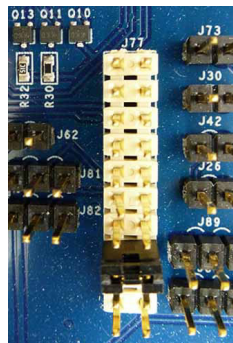

Figure 53.
- (12) Jumper J71 Pin 2 to J71 Pin 1 (VCC) to command PWM\_TRI operation.
- (13) Jumper J70 Pin 2 to J70 Pin 3 (GND) to command buck operation.
- (14) Jumper J88 Pin 2 to J88 Pin 1 (VCC) to command continuous conduction mode (CCM) or J88 Pin 2 to J88 Pin 3 (GND) to command diode emulation mode (DE).
- (15) Jumper J89 Pin 2 to J89 Pin 1 (VCC) to command Latch off Fault protection (LAT) or J89 Pin 2 to J89 Pin 3 (GND) to command hiccup fault protection (HIC).
- (16) Remove jumper J4 to disconnect VIN\_FLY from VIN.
- (17) Connect V6 (TP8 banana) to a disabled external 6V source.
- (18) Connect VIN (J55 banana) and V12 (TP7 banana) to a disabled external 12V source.
- (19) Enable the BAT48, BAT12\_IN, V6, VIN, and V12 voltage sources.
- (20) Jumper J58 to command enable.
- (21) Enable can be verified by observing the presence of voltages at PVCC, VCC, MCUVDD, and CLK\_OUT.
- (22) Jumper J77 Pin 5 to J77 Pin 6 to command PWM\_EN. See Figure 53. Avoid bounce to this connection.